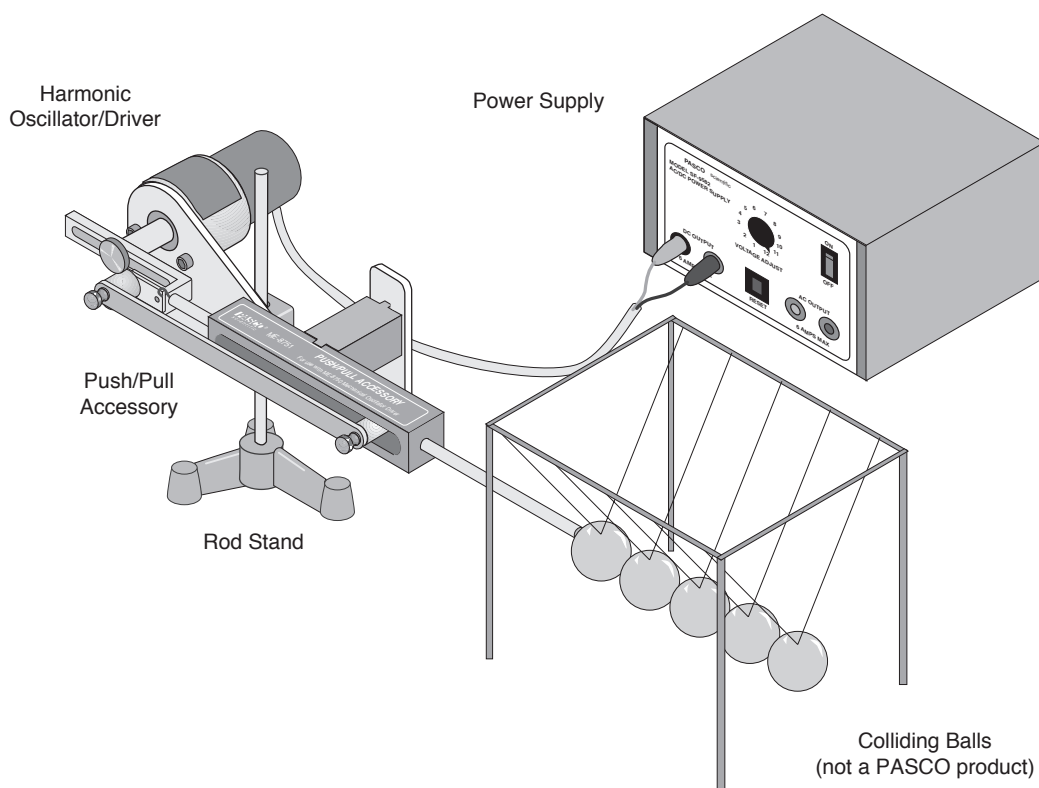

Figure 4: Resonant Modes of Oscillation and Chaotic Motion
- ③ Mount the Oscillator/Driver on a rod stand and hang a Longitudinal Wave Spring (WA-9401) from the hook on the Push/Pull accessory. Create a transverse wave in the spring to demonstrate that the wavelength varies down the length of the hanging spring.
- ④ Drive a set of hanging balls (see Figure 4) at various frequencies to show different modes of oscillation and chaotic motion.